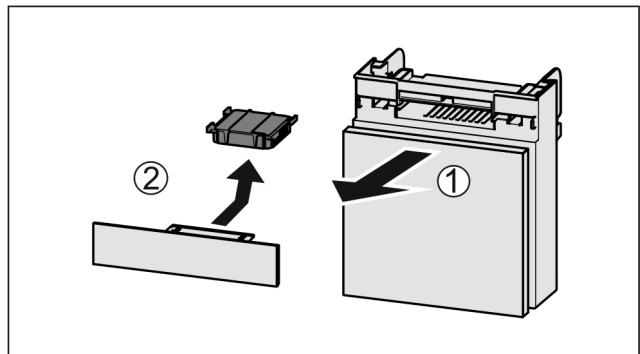

Fig. 86
- ▶ Pull out the compartment Fig. 86 (1).
- ▶ Remove the carbon filter Fig. 86 (2).